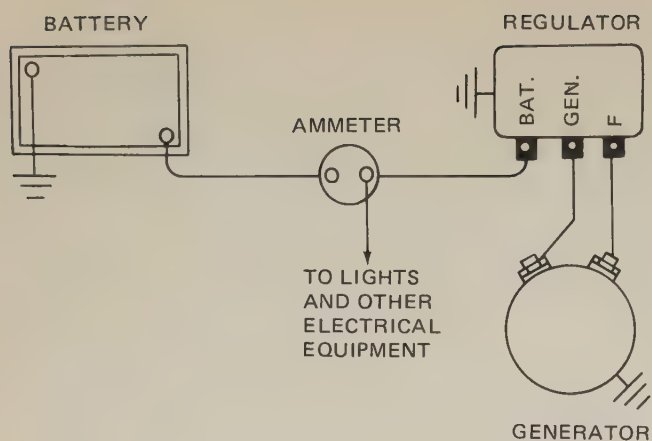

FIG. 28-1 A dc-charging-circuit wiring diagram.
○28-1 TROUBLESHOOTING DC CHARGING SYSTEMS The typical dc charging system consists of a battery, regulator, generator, and connecting wiring, as shown in Fig. 28-1. Normally, the regulator limits the generator output so that it produces enough current at the proper voltage to keep the battery fully charged, while preventing excessive voltage. It also is normal for the charging system to charge at a high rate when the battery is weak or discharged and to reduce the charging rate as the battery becomes charged.
**No Ammeter Reading** The ammeter is connected in series with the charging circuit as shown in Fig. 28-1. Current entering or leaving the battery flows through the ammeter. If there is current flow and no meter indication, the meter is defective.